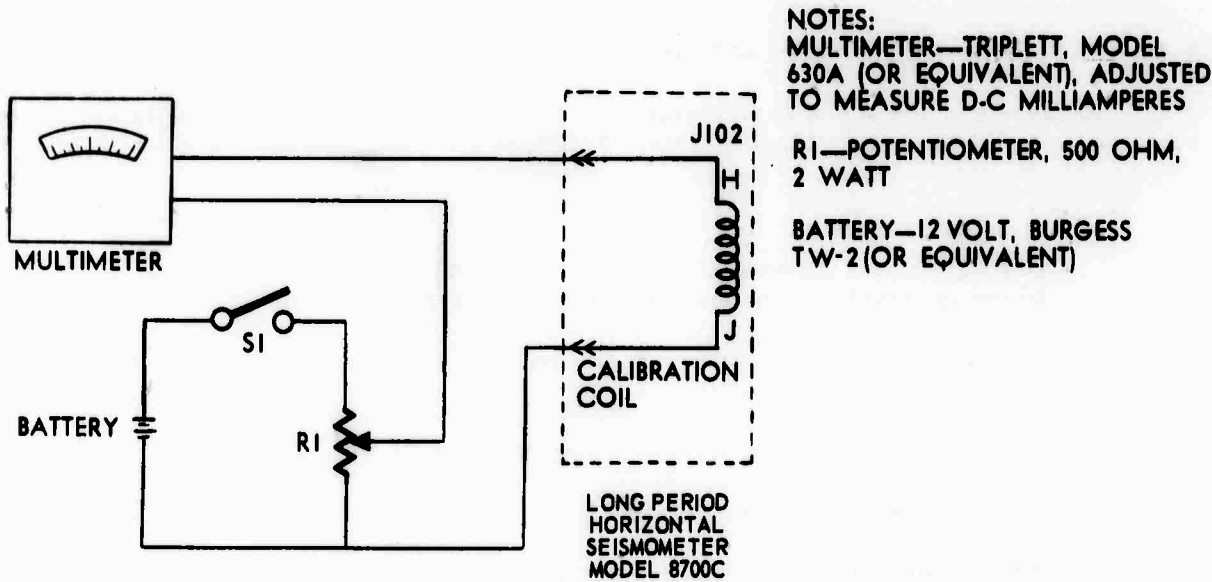

Figure 5-2. Test Setup for Natural Period and Damping
g. Connect test circuit shown in figure 5-2. Set the voltage divider or variable resistor for the lowest voltage that will give a usable deflection of the suspension arm when the switch is closed momentarily.